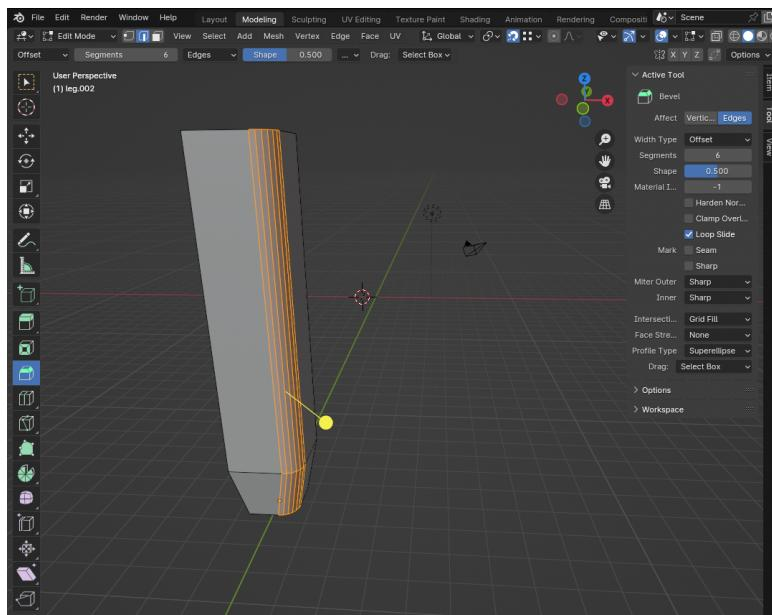

Figure 1.7: Rounding the edges of the table leg.
6. Select the side edge of the leg and add *Bevel* modifier. This time, increase the number of segments to round the edge of the table leg (see Fig.1.7). Repeat this operation for two more edge but the last edge should remain sharp (i.e., without bevel).